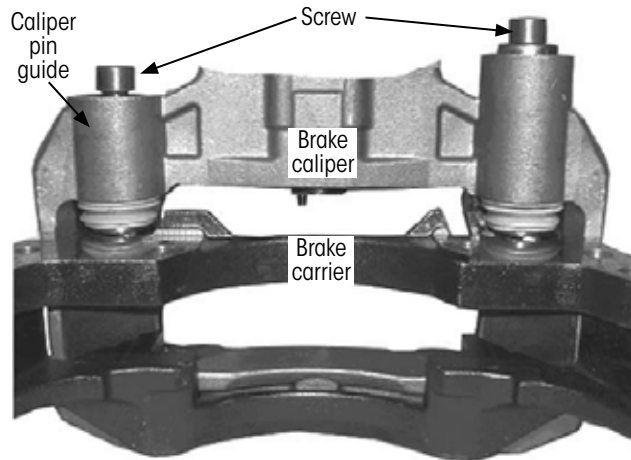

Figure 53: Removing guide pin screws
4. **Remove** guide pin screws (Figure 53). Refer to APPENDIX A: WRENCH SIZE AND TIGHTENING TORQUES on page 37, item IV.